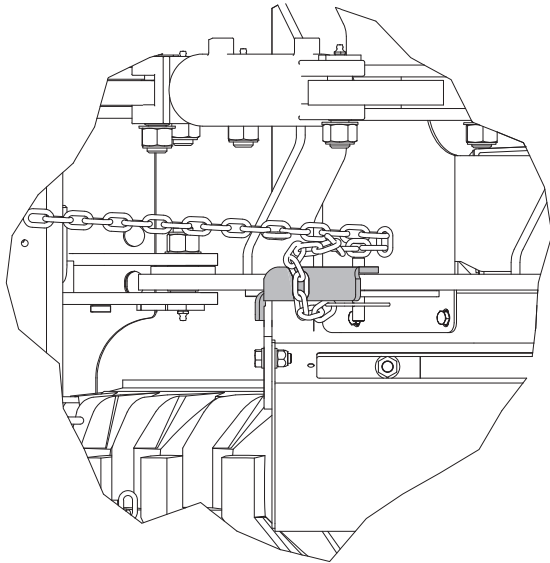

Figure 4. Arm lock clamped to the loader arm.
11. If the Digga Terminator is fitted with the Stump Grinder arm lock, affix it to the left-hand side of the loader, ensuring the pin is correctly positioned in its receptacle and is locked using the attached "R" clip. See Figure 4.